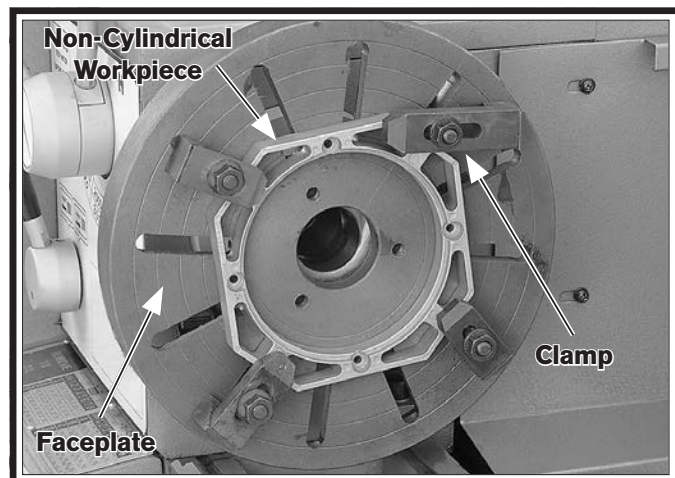

Figure 37. Example photo of workpiece clamped in a faceplate.
3. With help from another person or a holding device to support the workpiece, position it onto the faceplate and clamp it in place with a minimum of three independent clamping devices (see **Figure 37** for an example).